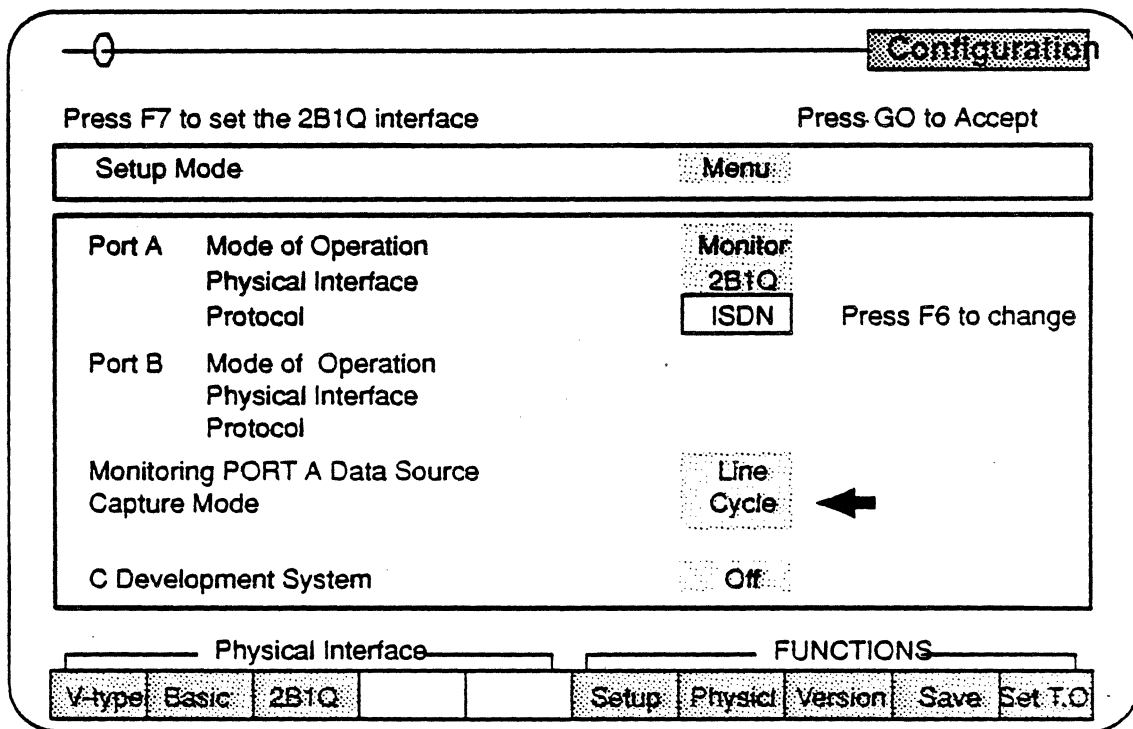

Figure 22.3: The Setup Mode Screen – Port A configured for ISDN U-Interface (2B1Q) Monitoring
4. Set the Port, Data Source and Capture Mode parameters as shown in Figure 22.3.